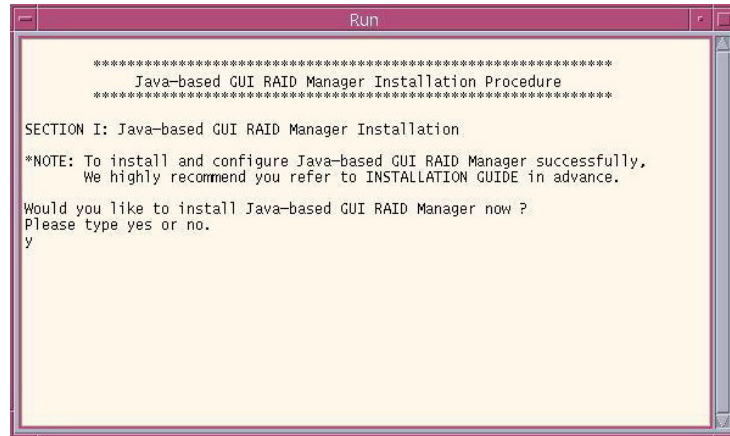

Figure 3-4: The “Run” Window
-  **Step 5.** A **Run** window prompt will display. (See *Figure 3-4*) To install the Java-based GUI RAIDWatch manager main program, type **YES** and then press **Enter**. This will launch RAIDWatch manager install shield. Please refer to *Section 3.4.5* for step-by-step installation procedures.